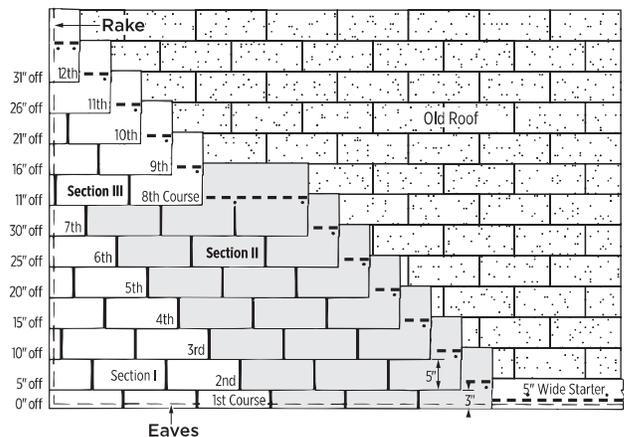

Figure 10-16: Five Off, Twelve Up, Nested.
**1ST COURSE:** The first course is made of 10" by 36" shingle strips made by cutting 2" off the bottom of the tabs of regular shingles. Align the top edge of the strips so they butt up against the tabs of the shingles in the old third course (Figure 10-16).
1. Begin the second course by cutting 5" off the left end of a shingle and aligning the top edge with the butt edge of the shingle in the old fourth course (Figure 10-16).
1. Begin the eighth course by cutting 11" off the left end of a shingle and applying the 25" piece over the seventh course shingle, aligned with the left edge of the seventh course (Figure 10-16).